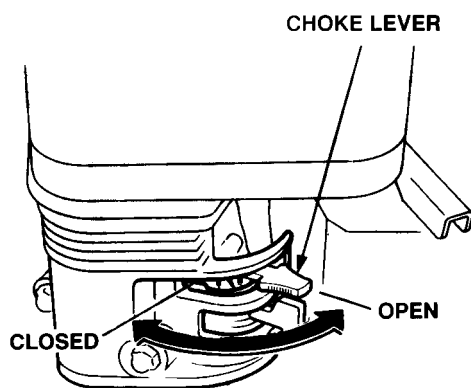

Figure 13. Choke Lever
3. Place the choke lever (Figure 13) in the **OPEN** position.